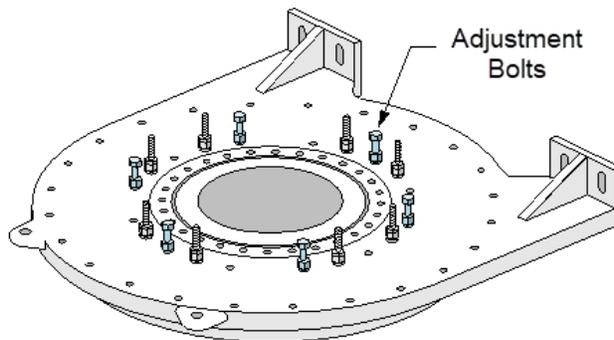

Figure 10-18: Adjustment Bolts
8. Install the adjustment bolts (901.04) with nuts and washers (50-7.04*, 543.04*, and 920.04) into the corresponding taps (Figure 10-18).